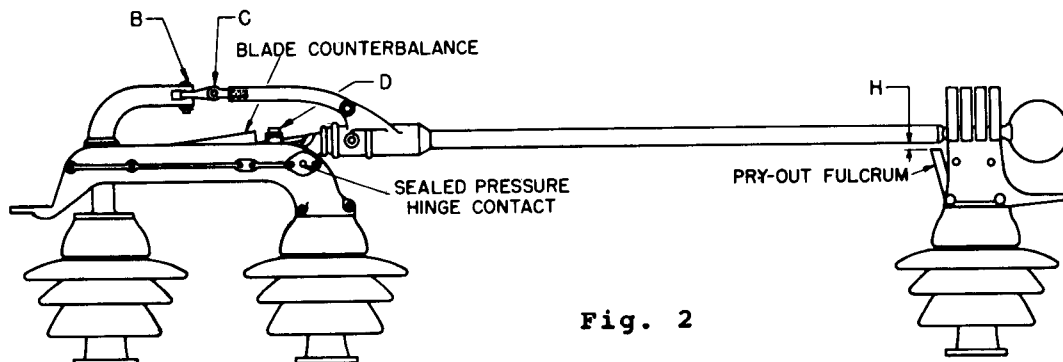

Fig. 2
In Fig. 2, dimension (H) can vary from about 1/8" to 5/8" or a little more, with the switch in the closed position. It is not usually possible to get this dimension to be equal on all poles of a three-pole switch. If necessary to vary this dimension, remove crank pin (B) and screw clevis (C) in or out 1/2 turn then reconnect and try switch. Repeat if necessary, but be very careful not to screw clevis (C) out too far so that the blade is forced down hard against the fulcrum. This can cause damage to internal parts at the hinge end.